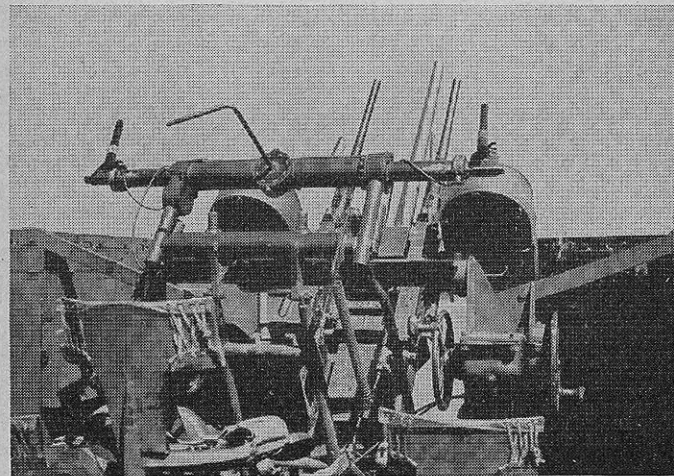

FIGURE 19.—M6 sighting system mounted on multiple gun motor carriage M15.
b. The telescopes of the sighting system are alined with the bore of the gun and mounted so that they move in azimuth and elevation with the gun. A deflection mechanism provides a means of setting in a maximum lead of plus or minus 400 mils, both in azimuth and elevation (fig. 19).